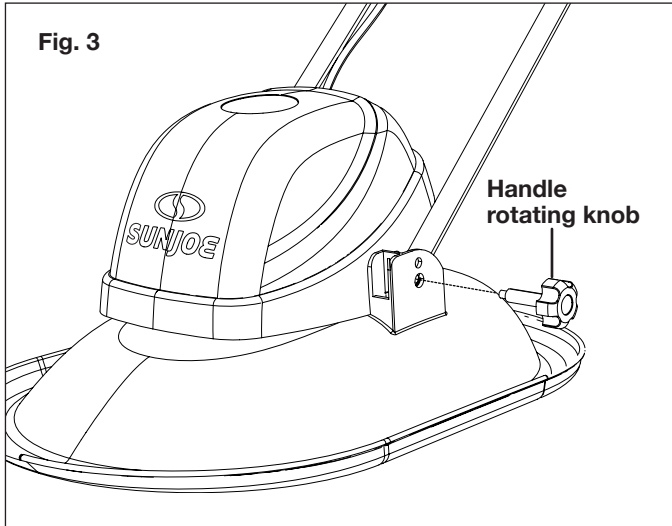

Fig. 3
3. To secure the lower handle frame, insert the handle rotating knob into the holes, rotate clockwise to tighten (Fig. 3). Repeat on the other side.